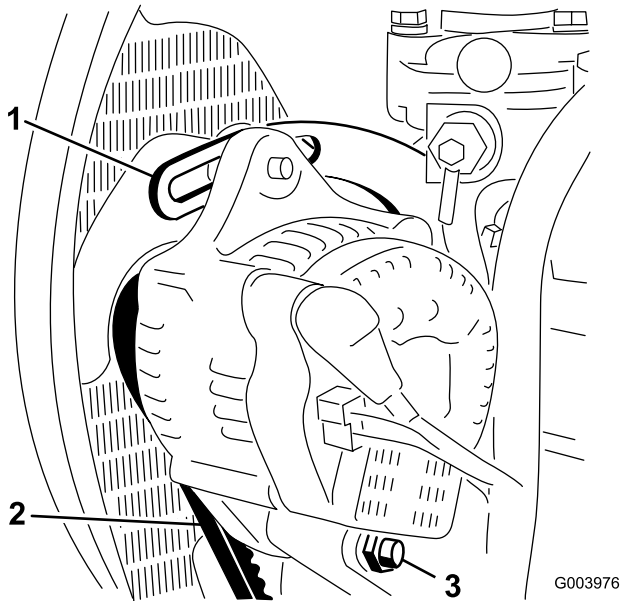

Figure 58
2. Check the tension of the alternator belt by depressing it (Figure 58) midway between the alternator and the crankshaft pulleys with 10 kg (22 lb) of force.
3. Loosen the bolt securing the brace to the engine (Figure 58), the bolt securing the alternator to the brace and the pivot bolt.